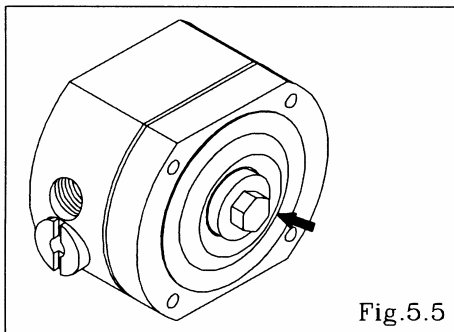

Fig.5.5
- Remove the center disk using the cap and disk remover. tool (special tool: Part No. 771132). (NDP-5) [Fig.5.5]
- Remove the center disk from one side.(NDP-15) [Fig.5.5]